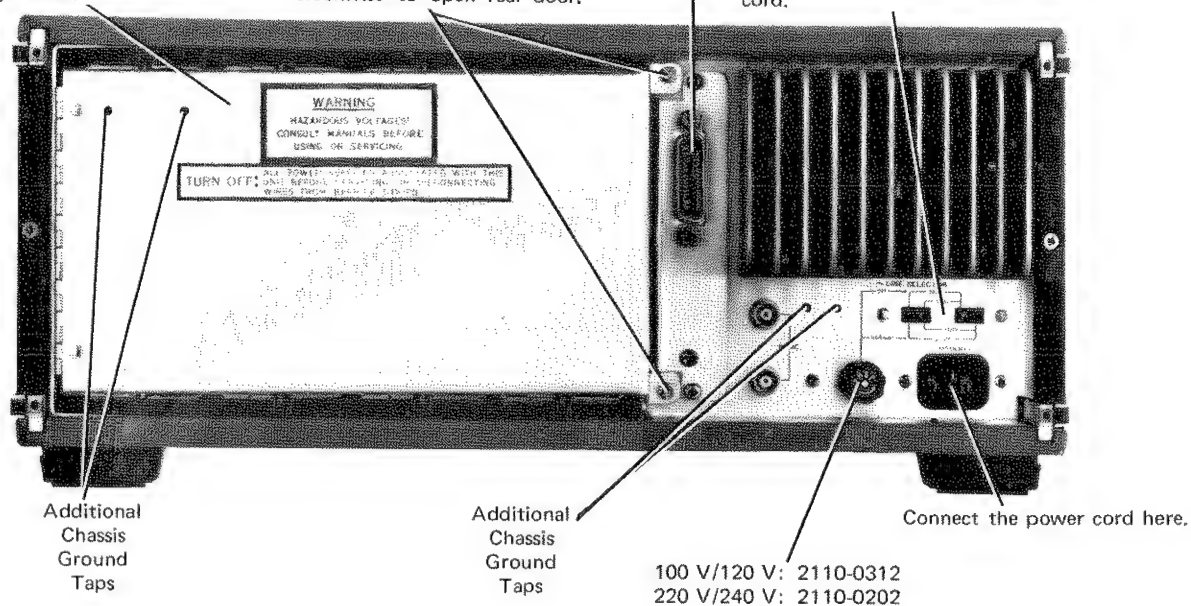

Figure 2-3. Front and Rear Views.
*The two line voltage selector switches on the rear panel must be positioned for the proper line voltage before instrument turn on. See Figure 2-3 for location of these switches.*
f. Open the door on the rear of the instrument by turning the two screws on the door. See Figure 2-3 for location of these screws.
3-12. The front panel displays indicate channel conditions on a decade. A closed channel is indicated by the two-digit number displayed on the decade's display. Low thermal decade displays are shown in Figure 2-3 of Section II.
3-15. Closed Actuator channels are indicated by the channel numbers displayed on the decade's display. The Actuator display consists of a ten's channel digit and corresponding unit's channel LED's. An Actuator display is shown in Figure 2-3 of Section II.